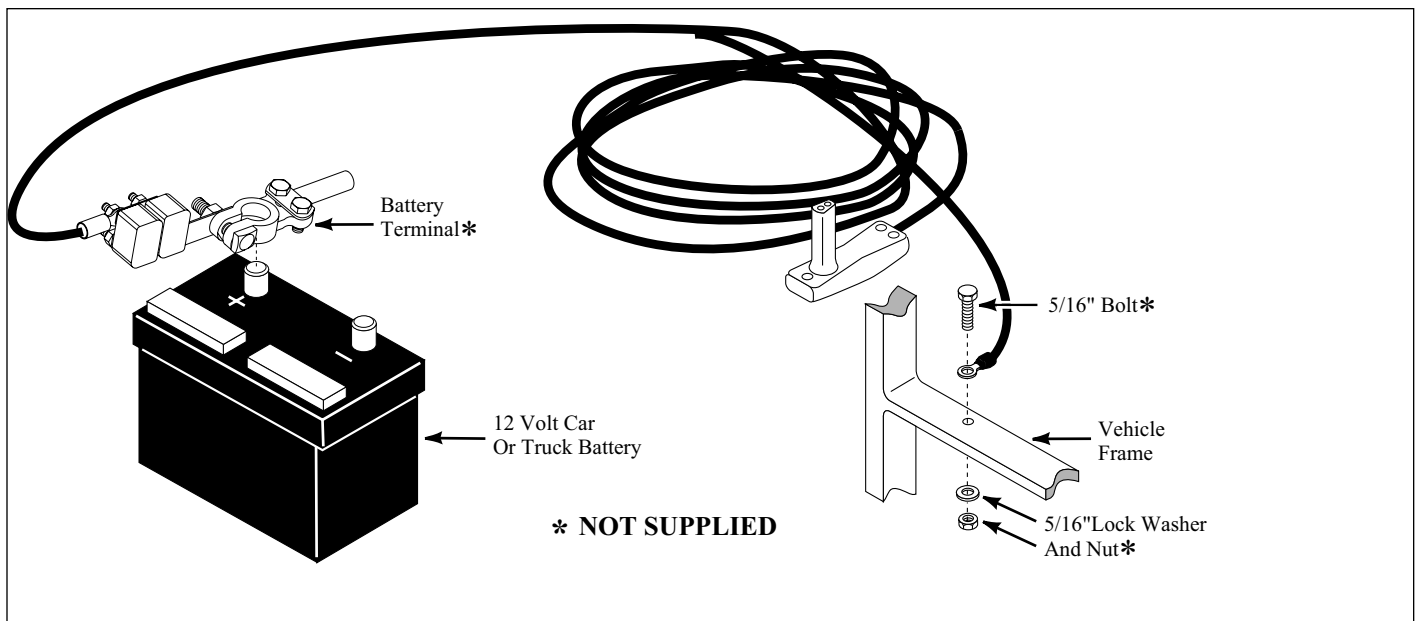

Figure 1 - Permanent Wiring Hookup for Models T2400 and T4000
To permanently wire the winch, refer to Figure 1 follow the outlined procedures.
1. Attach the circuit breaker to the **positive (+)** battery post or to the **positive (+)** battery side of the starter solenoid (See Figure 1).